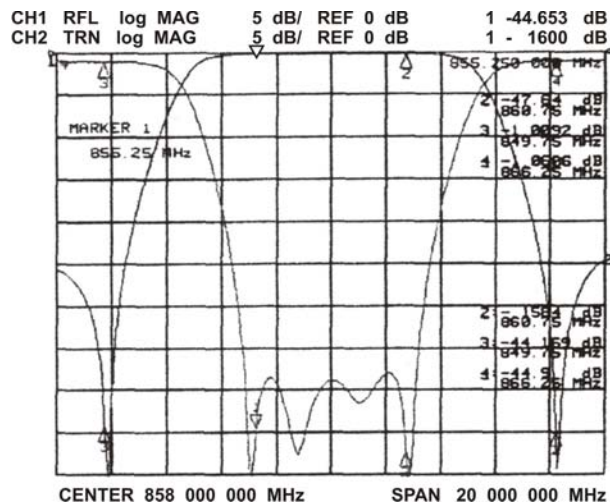

Fig. 5
7. It is possible to note that, by tuning the notch attenuation as described in point 6 above, the adaptation has moved. It can be adjusted by acting on the filter as per point 6, correcting each time the tuning of the notch attenuation by means of the coupling 5, until a frequency response like the one in the example (Fig. 5) is obtained.